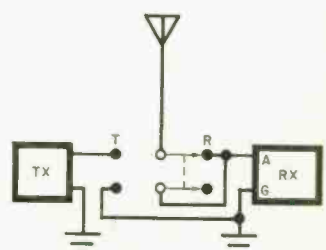

Fig. 3. Dpdt switch shorts receiver input on transmit.
**Taking Further Steps.** If you replace the spdt switch with a dpdt switch as shown in Fig. 3, and keep the leads to the receiver's input short, the switch shorts out the receiver's input circuit during transmit to limit induced signals. On transmit, the antenna is connected to the transmitter's output, while on receive, the transmitter's output is disconnected from the antenna. If you inadvertently fed the output of the transmitter into an open circuit, the final amplifier might go up in smoke.